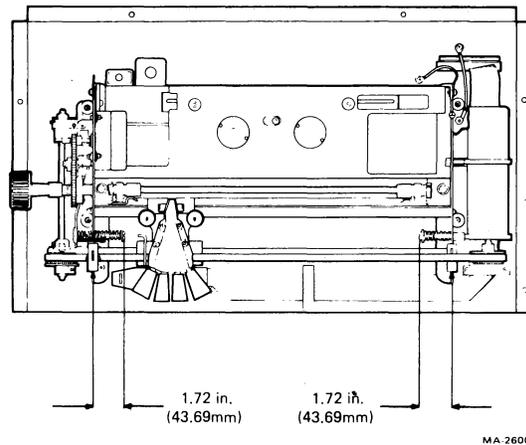

Fig. 37-Bumper Assembly Adjustment
3.08 Tighten the screws (Figure 37) until the top of the washer is 43.69 mm (1.72 in) from the side plate on the right side. Center the spring around the screw.